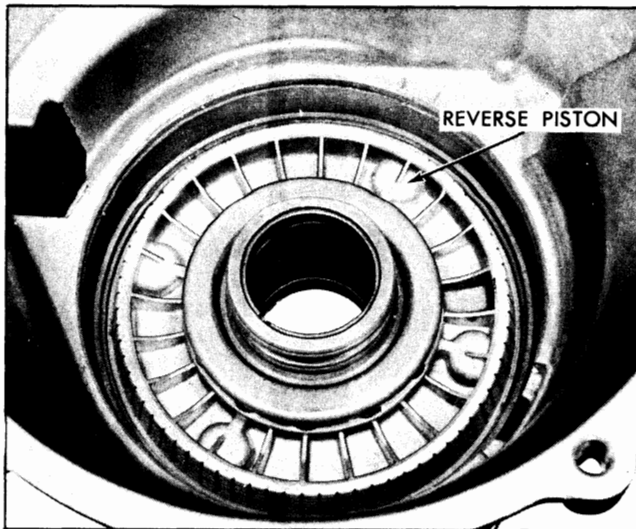

Fig. 7C-115 Reverse Piston in Case
5. Mark the case to indicate sides of the key to assist in alignment for installation of case center support (Fig. 7C-114).